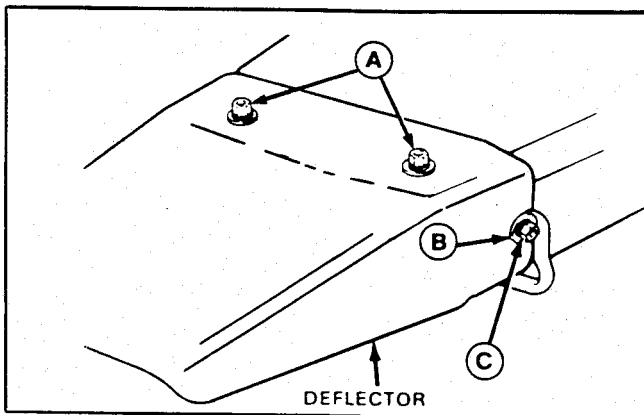

Figure 39.
To operate without the grass collection system, remove the blower assembly by removing the front wing nut and cup washer, and slipping belt off of the pulley. Reinstall the mower deflector (figure 39) and the original hardware. Install two carriage bolts from bottom and install washers and nuts (A). Install the front washers (B) and nut (C). Be sure flat washers and lockwashers are used at all three locations.